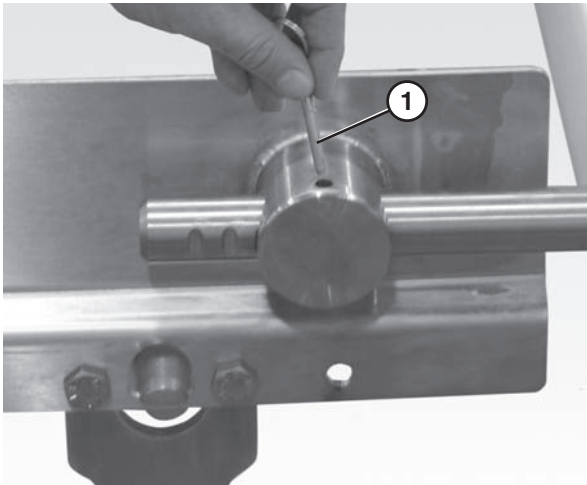

Figure 45
9. Insert the pull pins (**Figure 45, item 1**) on the tension end of the conveyor.